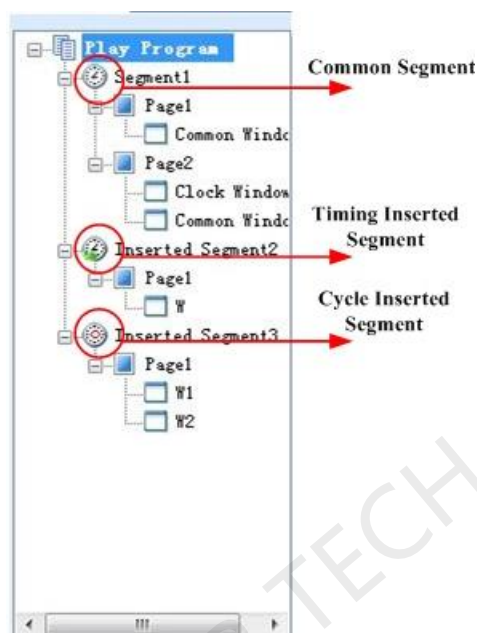

Fig. 10-6 Example of play program
**Window, Countdown Timer Window, Weather Window** . The **Common Window** can contain one or more different types of media. One example of play program structure is shown as Fig. 10-6.